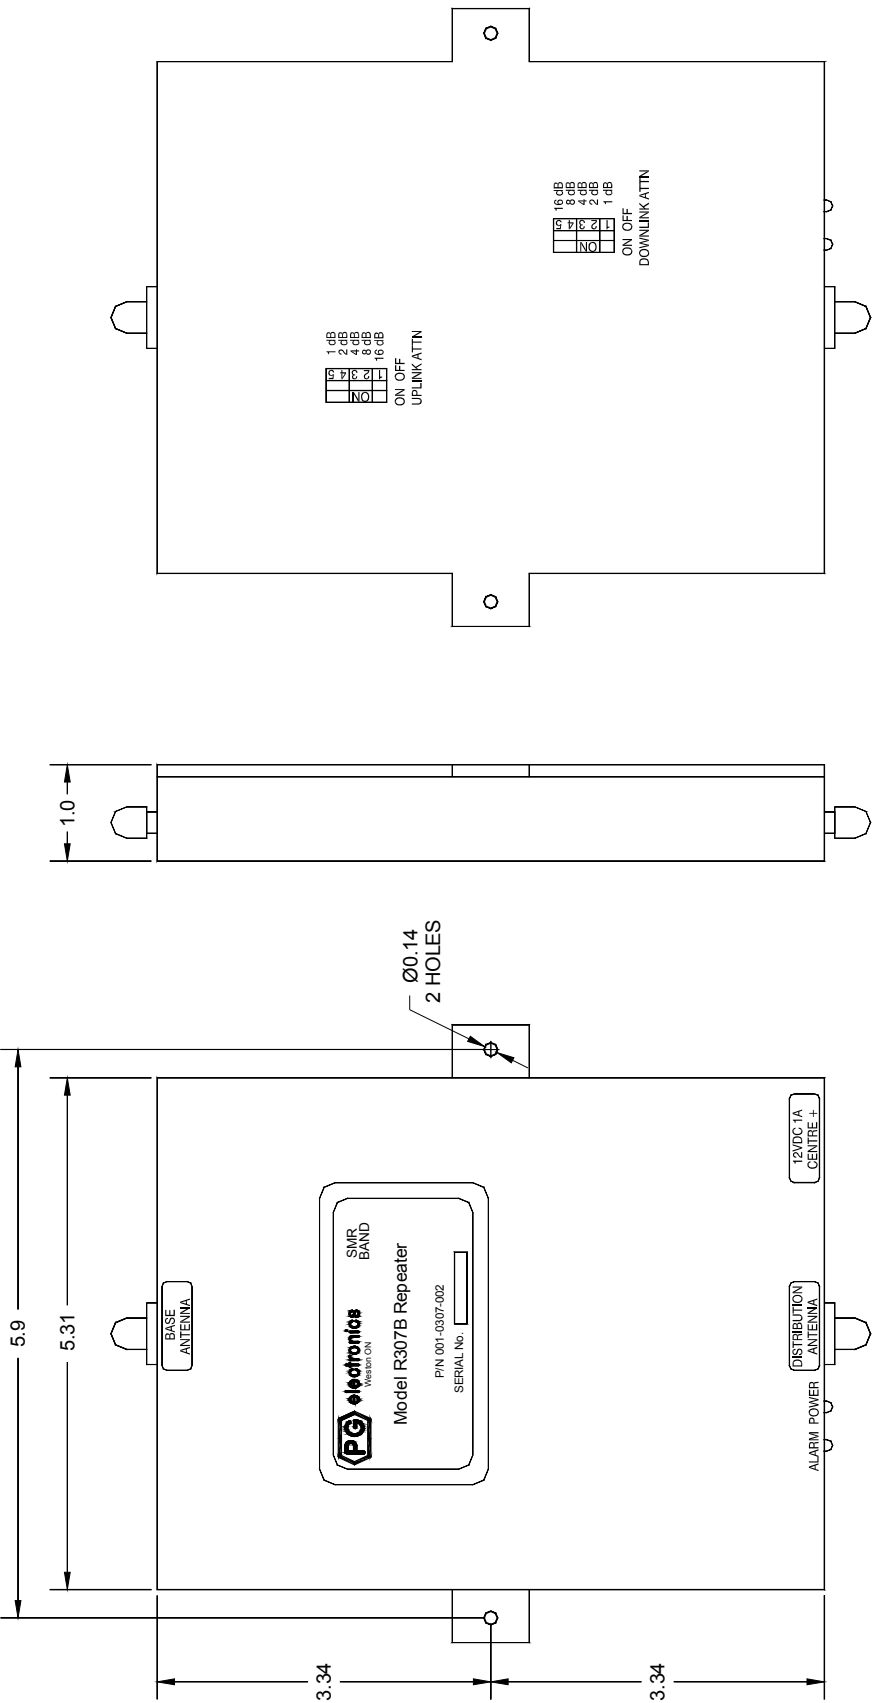

Figure 3-1. Installation Data
1.1.3 Physical Description. - The unit, shown in Figure 3-1, is designed to be mounted on a flat vertical surface. The unit has two SMA connectors for antenna connections and a DC power jack for connection to the external AC-DC power source supplied with the unit.
2. Adjust uplink and downlink attenuators to their correct settings. The internal independent uplink and downlink attenuators can be set by the DIP switches on the bottom of the unit. Steps are available for 1 dB, 2 dB, 4 dB, 8 dB and 16 dB of attenuation. Setting the switch to "ON" inserts the corresponding attenuation value. Refer to figure 3-1 for location of the uplink and downlink attenuator switches. In most installations, these attenuators are typically set to the same value.
The internal independent uplink and downlink attenuators can be set by the DIP switches on the bottom of the unit. Steps are available for 1 dB, 2 dB, 4 dB, 8 dB and 16 dB of attenuation. Setting the switch to "ON" inserts the corresponding attenuation value. Refer to figure 3-1 for location of the uplink and downlink attenuator switches.